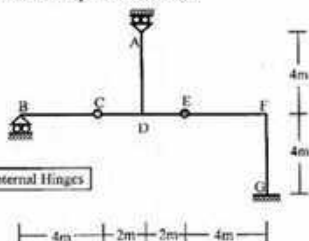

Fig. 2
2. Draw the influence lines of  $Y_A$ ,  $Y_G$ ,  $V_G$  and  $M_G$  for the frame ABCDEFG shown in Fig. 2, if the unit load moves over (a) beam BF, (b) column AD, (c) column FG.